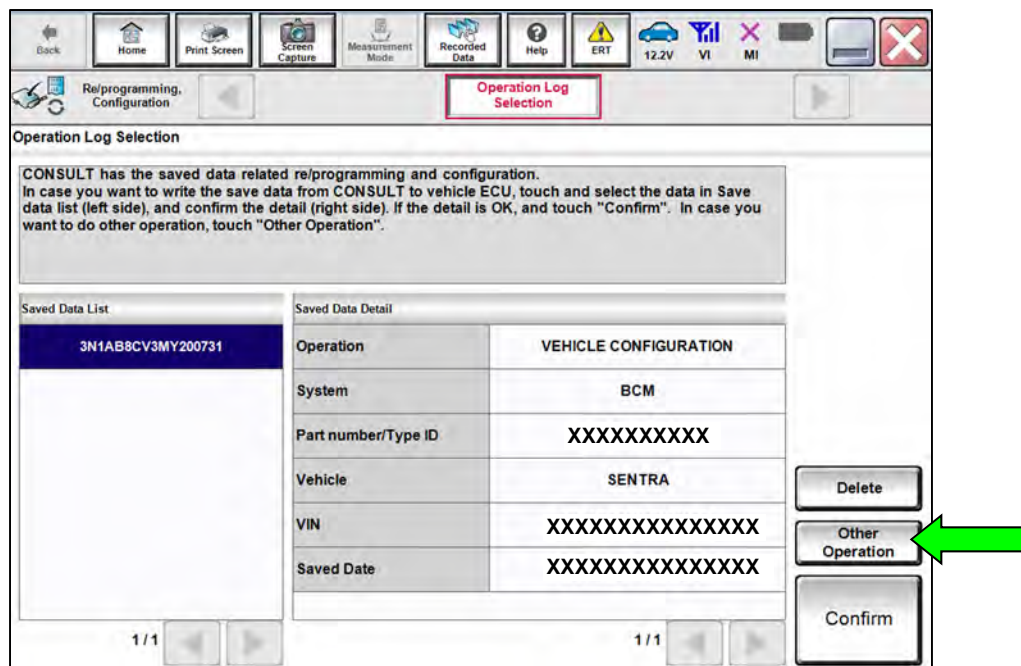

Figure 33
42. Select **Other Operation** (Figure 33).